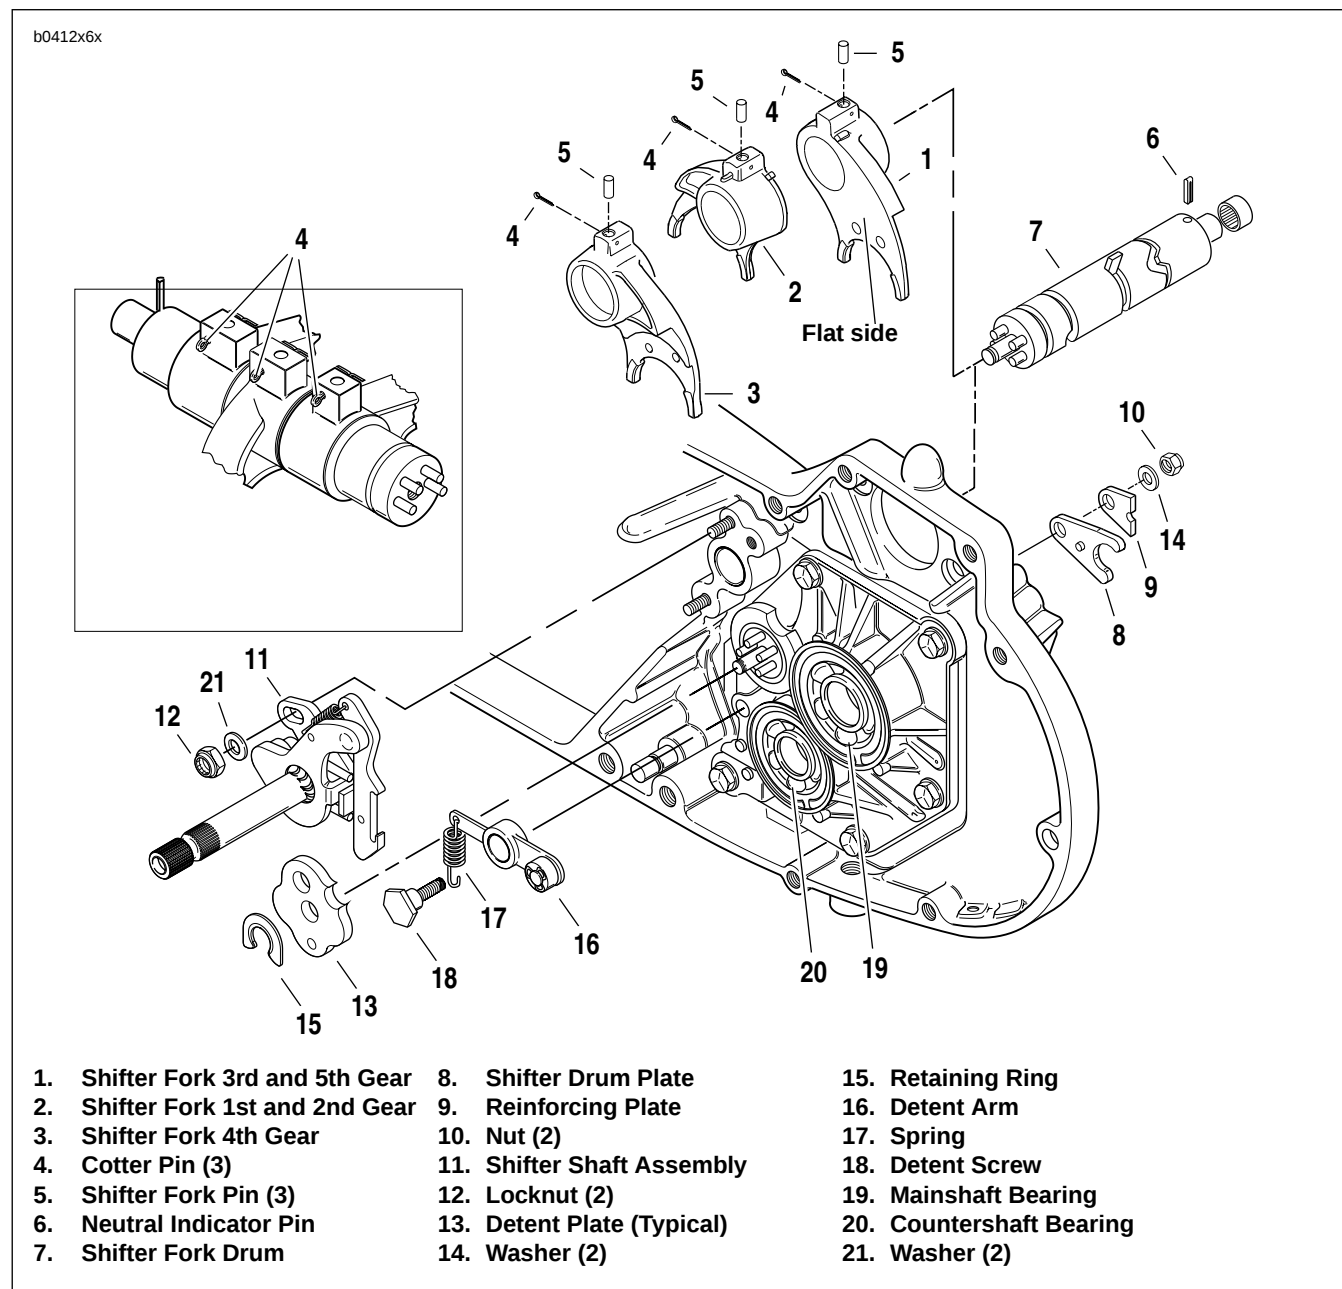
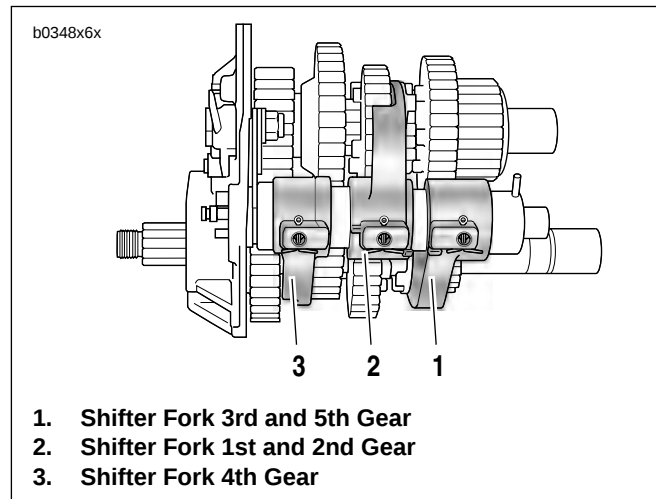

Figure 6-31. Shifter Mechanism
Figure 6-32. Shifter Fork Identification
2. See Figure 6-31. Remove nut (10), washer (14), detent screw (18), plates (8, 9), detent arm (16) and spring (17).
3. Remove and discard the three fork cotter pins (4).
4. Remove three shifter fork pins (5). A small magnet is useful in freeing the fork pins (5).
5. Slide shifter fork drum (7) away from access door, through shifter forks. The neutral indicator pin prevents removal in the other direction.
1. See Figure 6-31. Clean all parts except bearings (19, 20) with solvent.
1. See Figure 6-32. Identify all shifter forks before assembly. Note shape of fork and location of fork pin holes.
- b. Place 3rd and 5th gear shifter fork (1) in the fork groove of mainshaft 2nd gear. Be sure the flat side of fork is facing the access cover.
- c. Place 1st and 2nd gear shifter fork (2) in the fork groove of countershaft 3rd gear. Be sure the flat side of fork is facing away from the access door.
- d. Place 4th gear shifter fork (3) in the fork groove of mainshaft 1st gear. Be sure the flat side of fork is facing away from the access door.
3. See Figure 6-31. Install shifter shaft drum.
- a. Position the shifter drum shaft so that the neutral indicator pin (6) is upward. The shaft is then in the neutral position.
- b. Insert the pin end of shifter drum shaft (7) through the hubs of shifter forks (1, 2 and 3) and through the bearing in access cover.
The cotter pins must be inserted through the shifter forks as shown in Figure 6-32. This will prevent possible damage to the cotter pins.
4. See Figure 6-31. Secure shifter mechanism.
- a. Lubricate the three shifter fork pins (5) with SPORT-TRANS FLUID.
- b. Drop fork pins (5) through the holes in shifter forks.
- d. Secure shifter fork pins with **new** cotter pins (4).